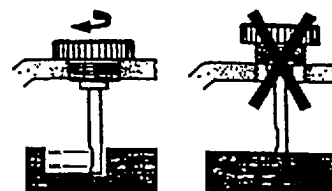

FIGURE 3-8. COMPRESSOR OIL LEVEL
- b. Wipe off dipstick with lint-free cloth; screw the dip stick all the way in, then remove again and examine (see figure 3-8).